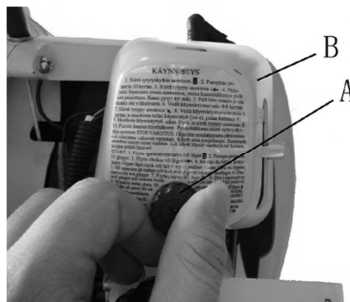
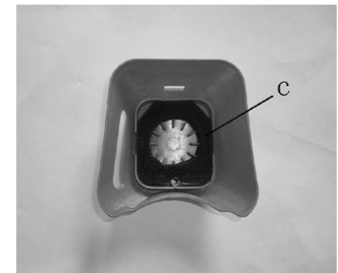

Fig.17
Fig.18
1. Loosen knob(A) holding air filter cover in place, remove, cover(B)and lift filter(C)from air box (Fig.17 & Fig.18).